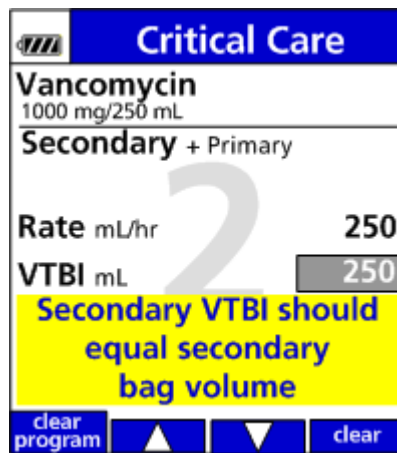

Figure 14. Secondary Bag Volume Confirmation.
- During secondary setup a popup (See Figure 14.) prompts the clinician to verify the secondary VTBI (Volume To Be Infused) equals the secondary bag volume.